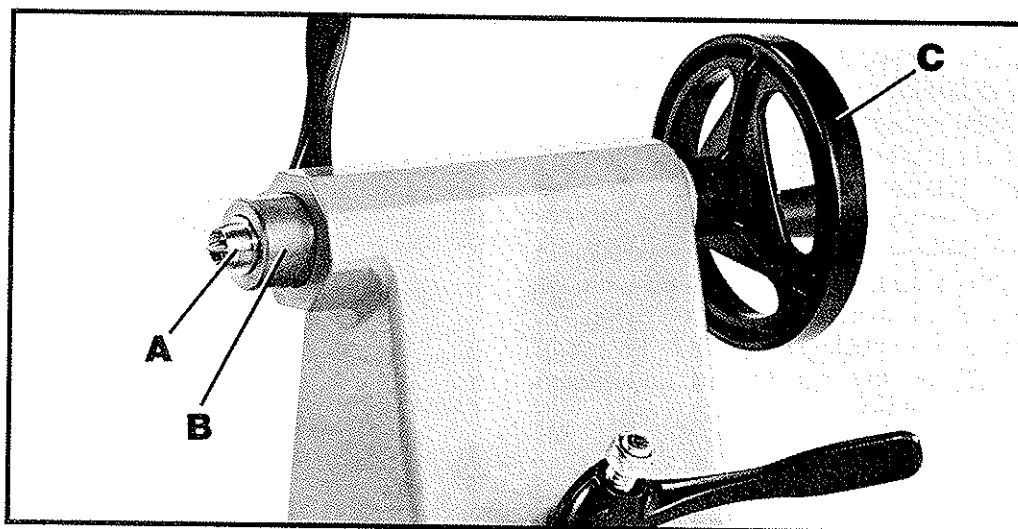

Fig. 26
The tailstock cup center (A) Fig. 26, supplied with your lathe, is equipped with a No. 2 Morse Taper shank and is inserted into the tailstock spindle (B), as shown. To remove the tapered shank cup center (A) from the tailstock spindle, simply rotate handwheel (C) to move spindle (B) back into the tailstock body. This will push the cup center (A) out of the spindle (B).